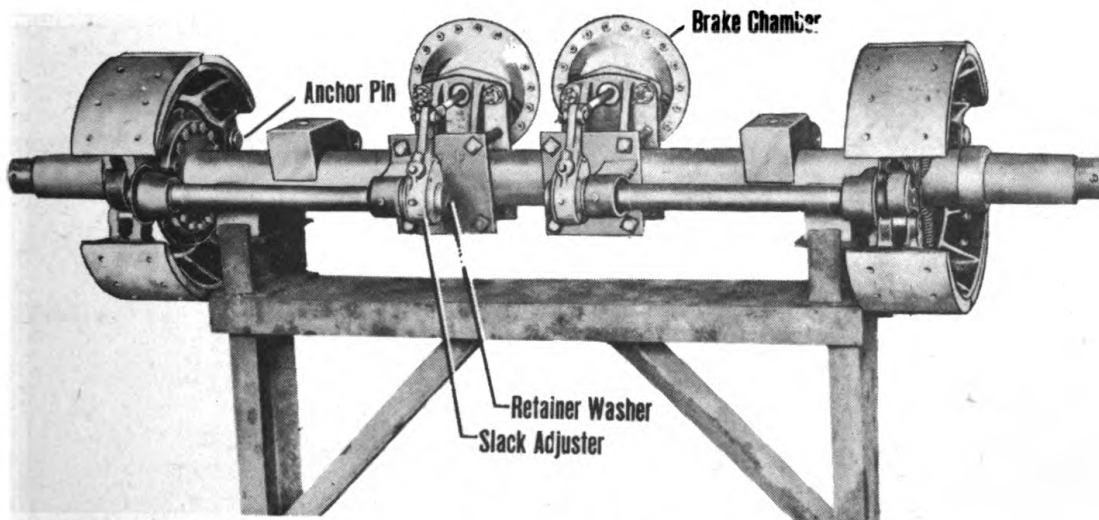

Figure 17—Front Axle, with Brake Shoes in Position
13. Use a screwdriver to remove a lock wire from each brake shoe anchor pin (figure 17); drive out the anchor pins, taking care not to damage their felts.